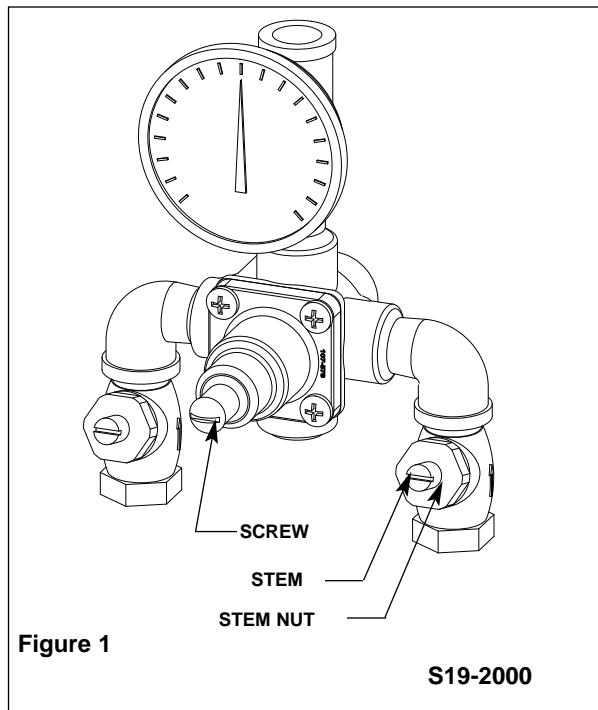

Figure 1
Note: When the stop/check valves are in the closed position, the stem for the stop/check will be 1/4" above the stem nut (see Figure 1). When the stop/check valves are in the open position, the stem will extend out approximately 1/2" (13 mm) from the stem nut.
- *make sure that the stop/check valves are fully open (the slotted stem must extend out approximately 1/4" (6 mm) from the valve cap) (see Figure 1 on page 3) and that all inlet and outlet shut-off valves are open*